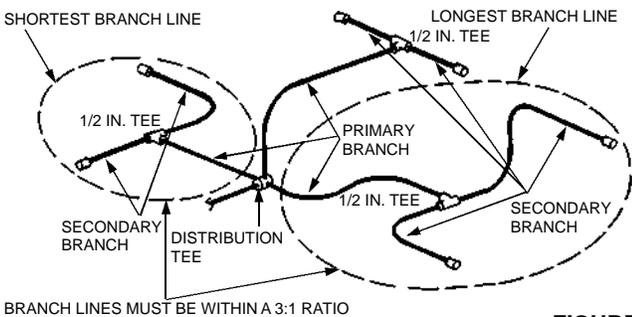

FIGURE 9B
- In an unbalanced system, the longest branch line must be no longer in length than 3 times that of the shortest branch line, with a maximum of 18 ft total (primary plus two secondary branches). See Figure 9B.